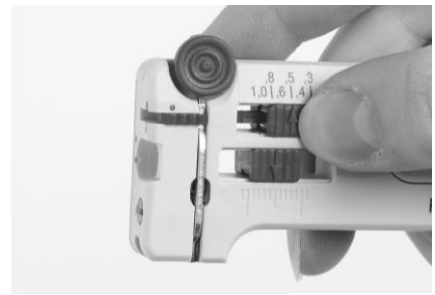

Figure 3
3. Adjust the Conductor Adjustment for the required wire conductor diameter. See Figure 3.